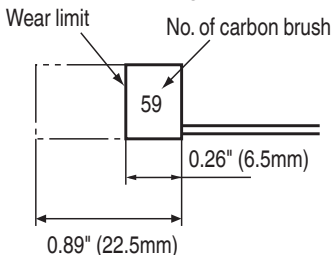

Fig. 6
4. Inspecting the carbon brushes (Fig. 6)
Use metabo HPT carbon brush No. 59 indicated in Fig. 6.